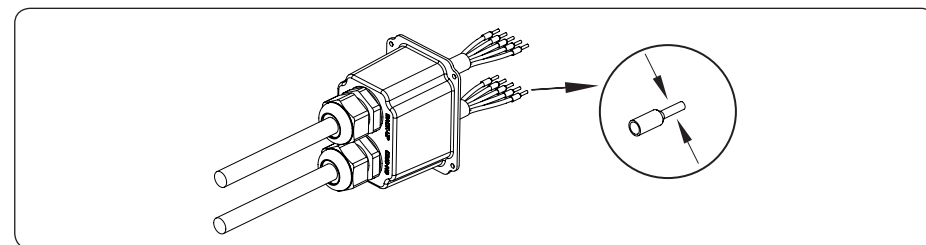

Figure 4-24
3) Put the cord end terminals on the stripped conductors one by one and press with some pressure to make it tightly locked with the conductors, as shown in Figure 4-24: